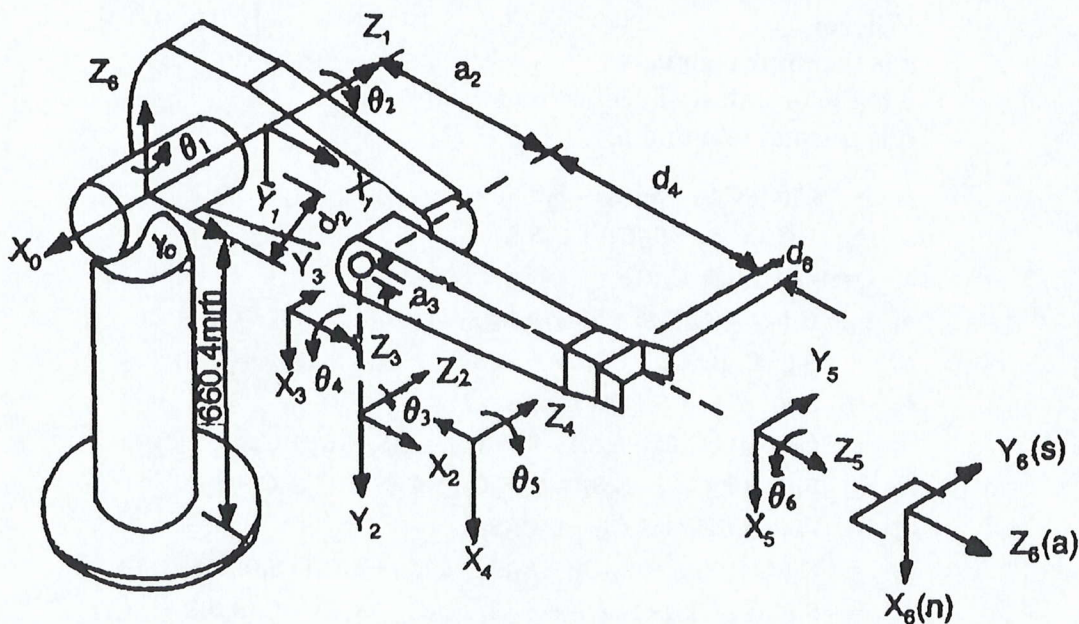

Figure Q3[a]
- Q3. [a] PUMA robot with the coordinate frames and joint parameters shown in Figure Q3[a] has the equation of homogeneous matrix given by: